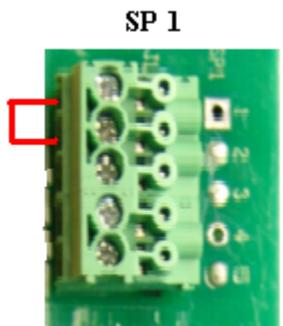

Fig 2.3.1 SP 1 pin-out
1. Turn off the power being supplied to the unit, and wire the serial port of PC to the serial port **SP1** on the Marquee's Controller board. The wiring diagram is as shown below (**DO NOT remove the jumper between pins 1-2 on the SP1 connector (refer to Fig. 2.3.1 for SP1 pin-outs)** :